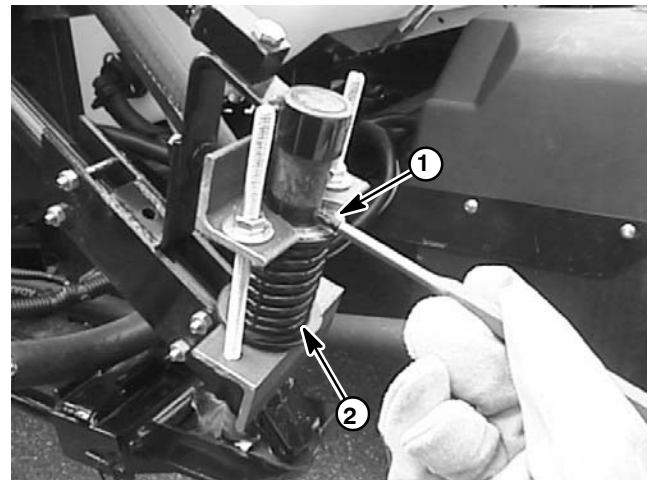

Figure 46
4. Compress spring in breakaway assembly slightly. Drive roll pin from hinge (Fig. 46). Remove flat washer and spring from assembly.